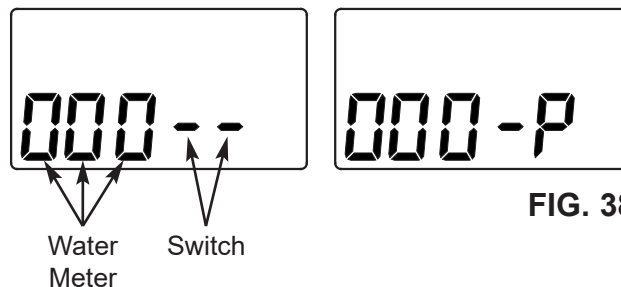

FIG. 38
3. The letter "P" and a dash (or dashes) indicate POSITION switch operation (See Figure 38). If the